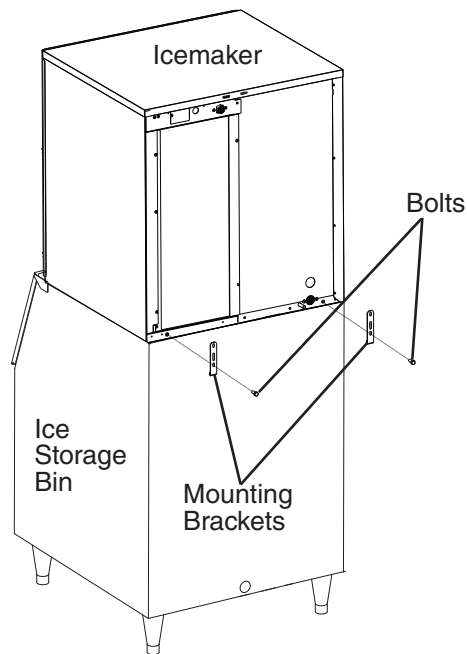

Fig. 2
- 4) Secure the icemaker to the storage bin using the 2 mounting brackets and the bolts provided. See Fig. 2.
- 6) **Icemaker:** Replace the panels in their correct positions. See Fig. 2.